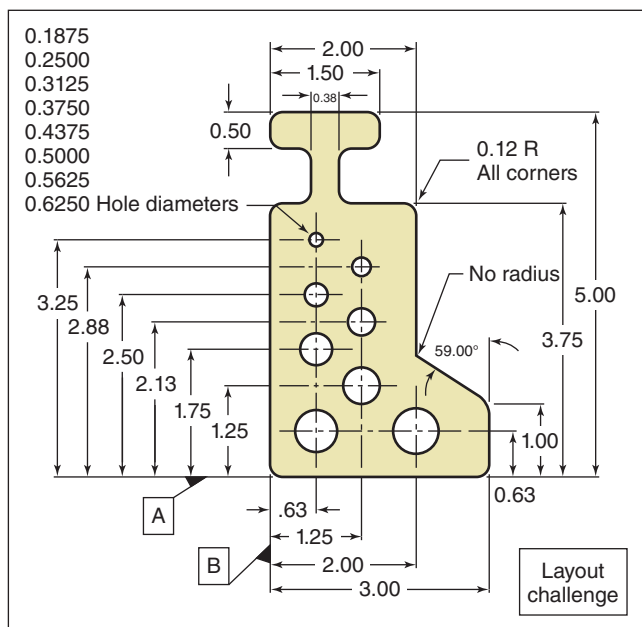

Figure 8-30 Print for Unit 8-3 layout.
8.3.2 Laying Out the Drill Gage (Fig. 8-30)